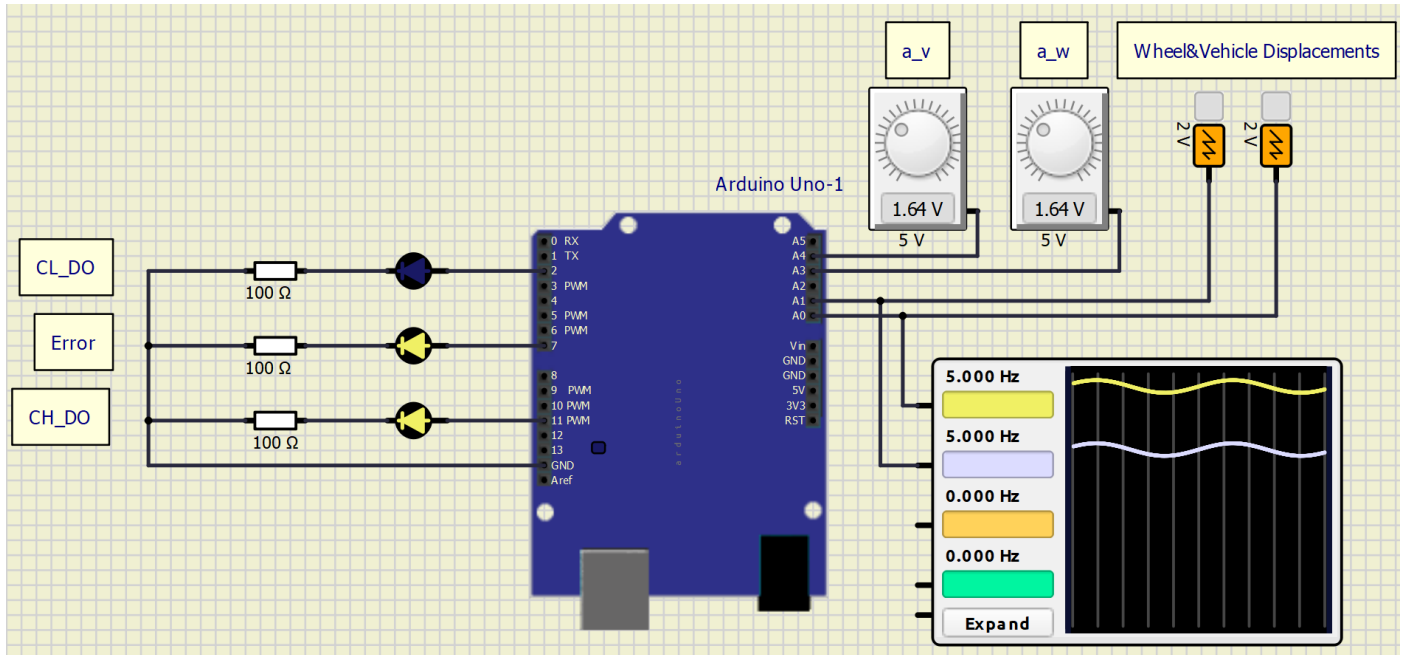
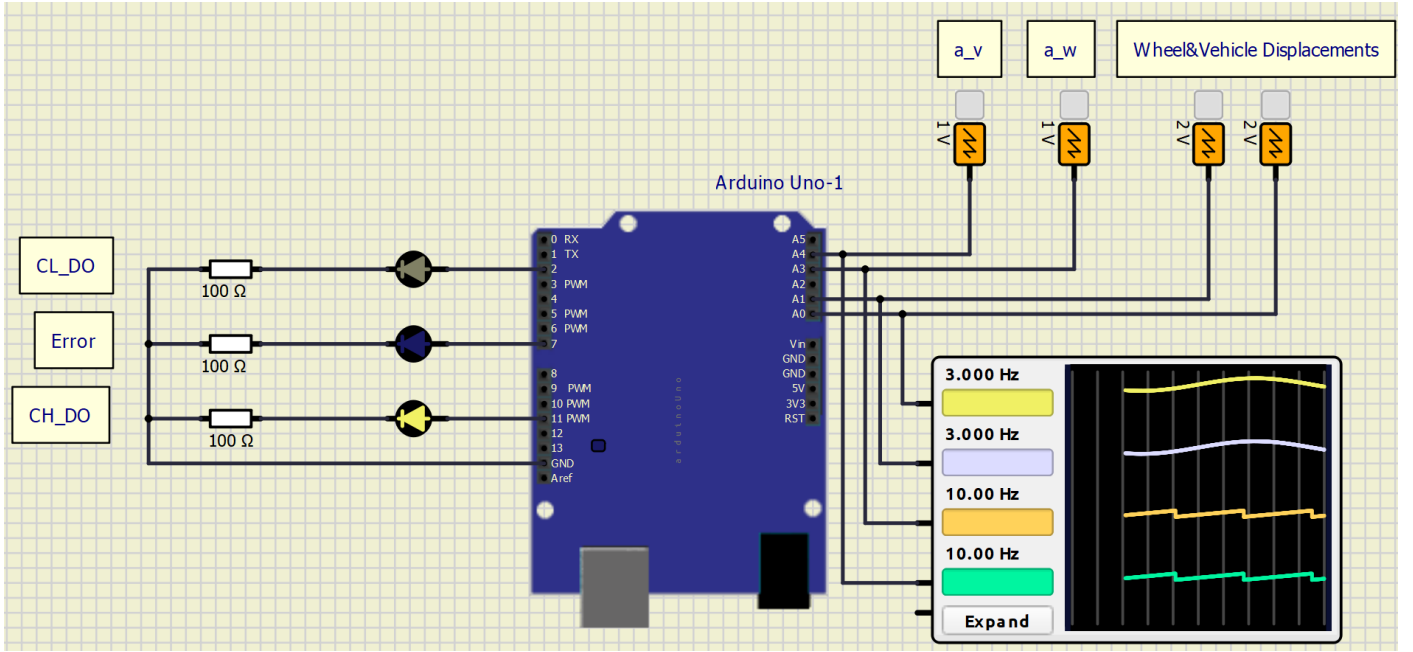

Figure 2: Arduino implementation: Constant voltage source were employed to test application SS
Figure 3: Arduino implementation: Waveform generators were employed to test damping factors switching
- **Vehicle and Wheel accelerations**, two voltage sources were deployed giving constant outputs. As a matter of fact, the model shall enter the safe state (as shown in Fig. 2) since the two accelerations values are constant through all the simulation. On the other hand, to test the application without rising the error flag two different waveform generated with the Wave gen. block of SimulIDE could be deployed (such as sawtooth or sine waveform). With this scenario the leds will highlight the switching of the damping factor, turning on or off the CL_DO or CH_DO digital signal respectively (Fig. 3).